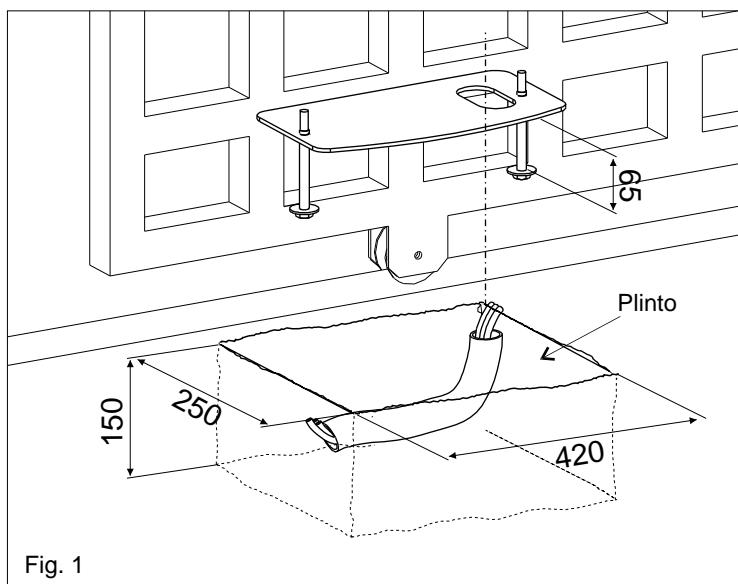

Fig. 1
2.1. Prepare a concret basement with the dimensions shown in Fig. 1 where the foundation plate and the anchor bolts will be concreted.
NOTE: It is recommended, gate structure permitting, to lift the foundation plate about 50mm from the ground, in order to avoid eventual water stagnation (Fig.1)